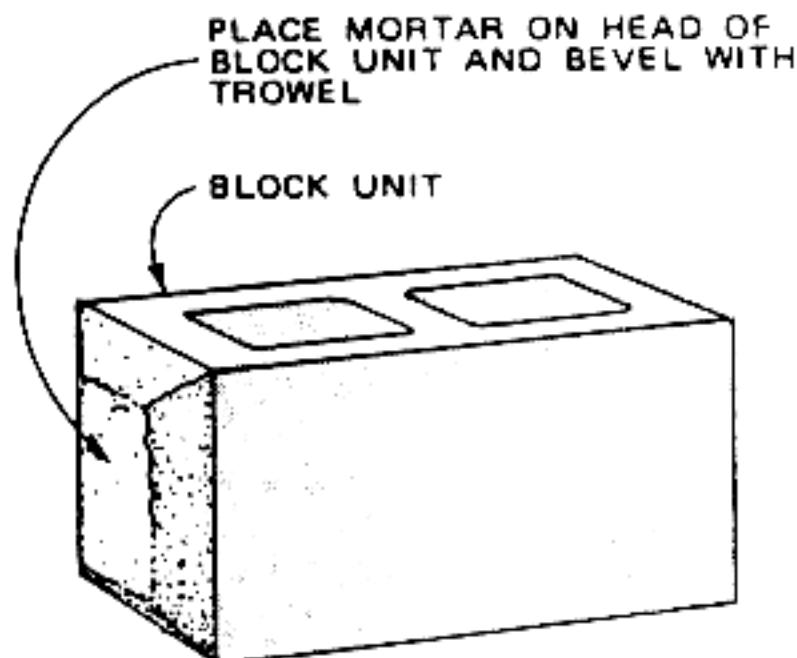

Figure 45. Placement of mortar on head of block unit
**Step 2.** Place mortar on the end face of the block unit next to be laid, drawing the trowel across the edges of the block end, as indicated in Figure 45. This mortar will form the vertical joint (the head joint). The mortar consistency should be such that the mortar will stick to the surface of the masonry unit. It will help to keep the block units dampened during hot weather so that water in the mortar is not absorbed too quickly into the masonry material.